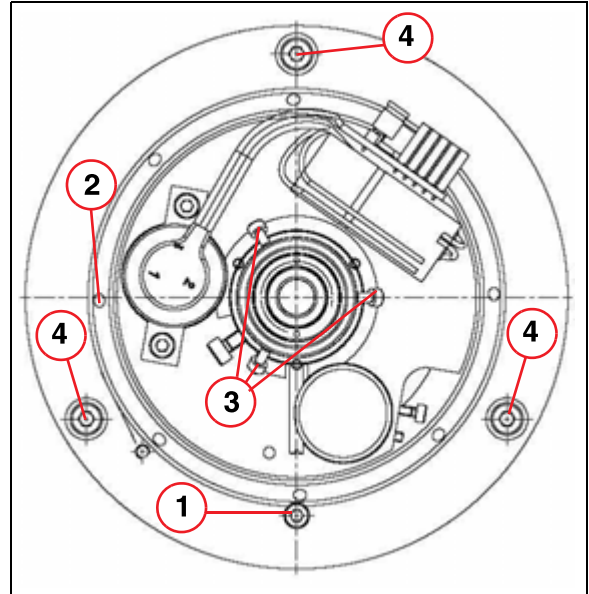

Fig. 26: Replacing the camera and I.I. optics
11. Remove the three M4 screws from the camera optics (4/ Fig. 26 / p. 47).
4. Loosen the clamping screw (1/Fig. 26 / p. 47).
5. Rotate the clamping ring (2/Fig. 26 / p. 47) a half rotation in the counterclockwise direction to loosen the camera. For this purpose, insert an Allen key (2.5 mm) into the hole (2/Fig. 26 / p. 47) and push the clamping ring in the counterclockwise direction.
6. Remove the 3 ISK screws (3/Fig. 26 / p. 47).
1. Remove the 3 M4 screws (4/Fig. 26 / p. 47).
- ⇒ When screwing in the 3 M4 screws (4/Fig. 26 / p. 47), make sure that the optic is pushed against the centering bolts.